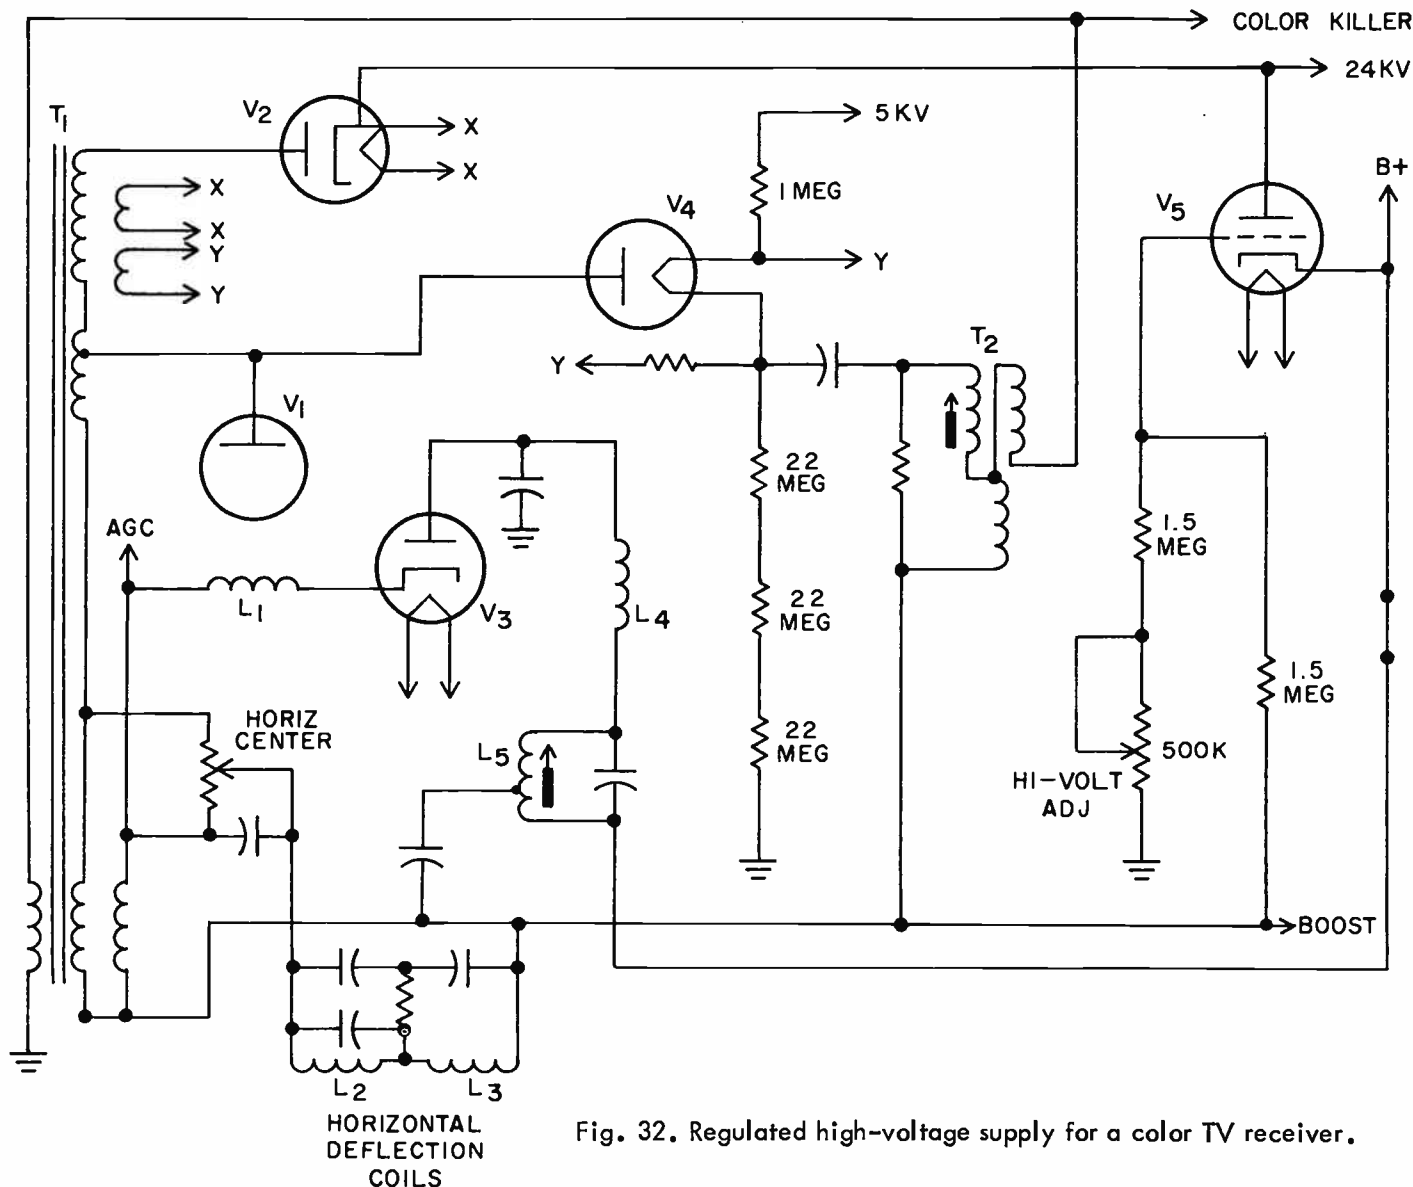

Fig. 32. Regulated high-voltage supply for a color TV receiver.
A typical high-voltage power supply using a regulator tube is shown in Fig. 32. V_1 is the horizontal output tube and T_1 the horizontal output transformer. V_2 is the high-voltage rectifier tube, V_3 the damper, V_4 the focus rectifier tube and V_5 the shunt high-voltage regulator tube.
The coil, L_5 , which is in the plate circuit of the damper tube, V_3 , is called an efficiency coil. It varies the wave shape of the current flowing in the damper circuit. The wave shape of this current affects the total current flowing in the horizontal sweep output tube, V_1 . In setting up the horizontal oscillator and the high voltage, the cathode circuit of V_1 is opened and a milliammeter is inserted in the circuit. Coil L_5 is then adjusted for minimum cathode current through V_1 . In the circuit shown in Fig. 32, this current must be kept under 200 ma to avoid overloading V_1 .
The power supply shown in Fig. 32 uses four tubes: the high-voltage rectifier, the focus rectifier, the damper, and the regulator tube. Some color TV receivers use a selenium rectifier in place of the vacuum tube rectifier, V_4 , as the focus rectifier. High-voltage, low-current selenium rectifiers are reasonably priced and since they require no filament power, they reduce the drain on the horizontal output transformer.
You'll notice that both the high-voltage rectifier tube and the focus-rectifier tube in Fig. 32 get their filament power from filament windings on the horizontal output transformer. In receivers where a selenium rectifier is used as a focus rectifier, there will be
- (v) Why is the focus voltage taken from the flyback supply in Fig. 32 rather than from the low-voltage power supply?
- (w) How is the high-voltage output in the circuit shown in Fig. 32 adjusted to the correct value?
- (y) What method, other than those used in Figs. 32 and 33, can be used to regulate the high-voltage in a color TV receiver?